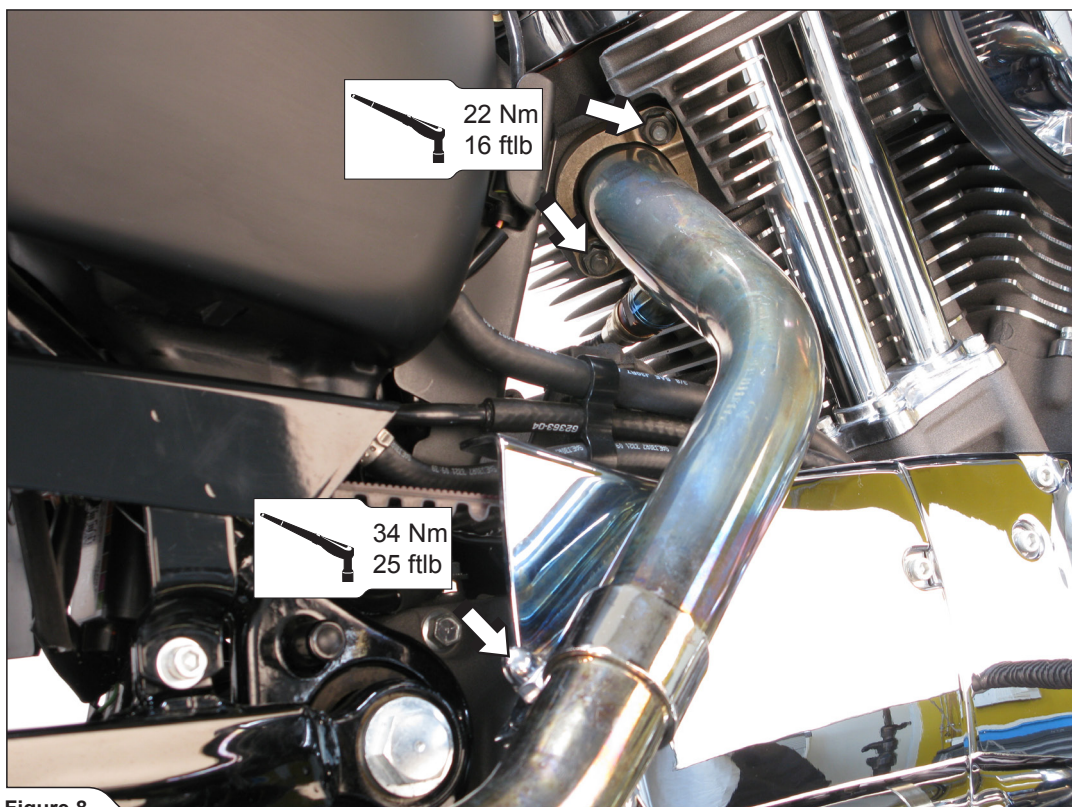

Figure 8
- Tighten the headers' flanges on both header pipes and stock rear header's clamp (Figure 8, 9).